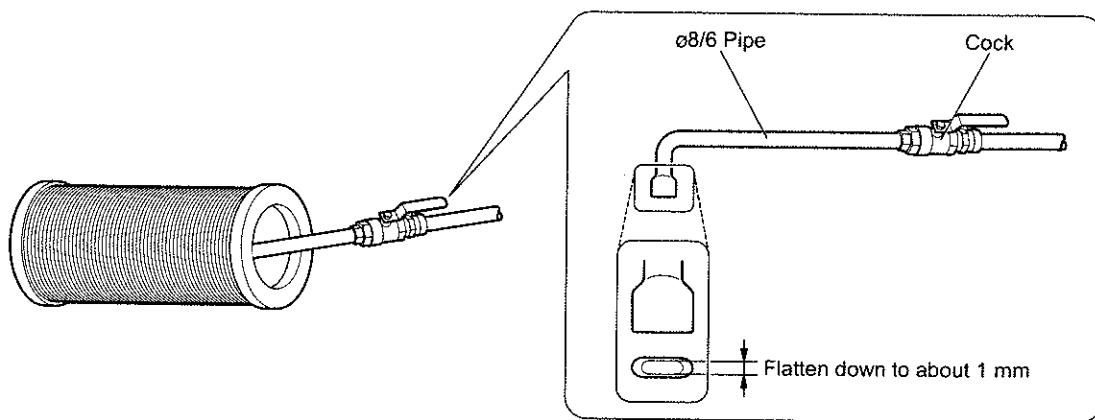

Fig.3 Cleaning the element
3. Prepare a nozzle as shown in Fig. 3.